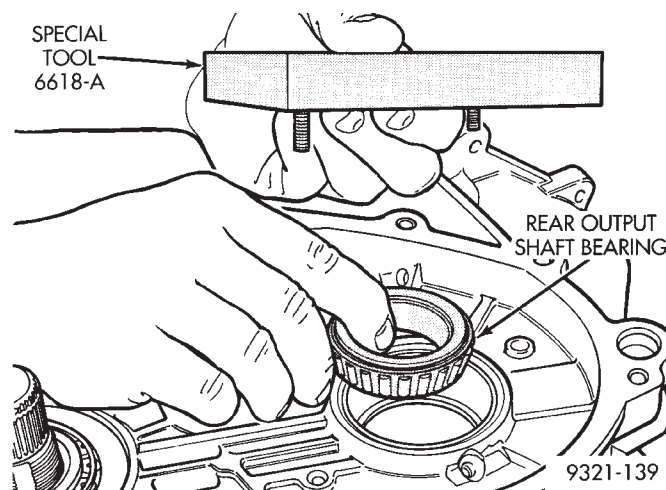

Fig. 147 Bearing Installation
(1) Install rear output shaft bearing cone and special tool 6618A (Fig. 147).